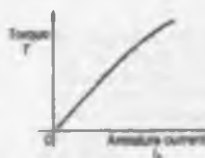

Figure 22.17
- (i) The theoretical torque/armature current characteristic can be derived from the expression $T \propto \Phi I_a$, (see Section 22.11). For a shunt-wound motor, the field winding is connected in parallel with the armature circuit and thus the applied voltage gives a constant field current, i.e. a shunt-wound motor is a constant flux machine. Since Φ is constant, it follows that $T \propto I_a$, and the characteristic is as shown in Fig. 22.17